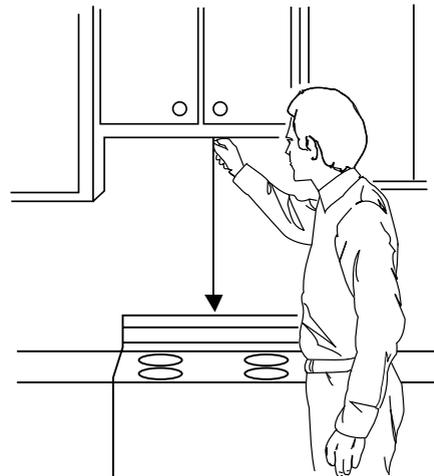

Figure 25
1. Using a plumb line and (metal) measuring tape, find and mark the vertical center line on the back wall, as in Figure 25.
4. Center the rear wall template in the space by lining up the plumb line on wall with centerline on template. Then securely tape or tack the rear wall template in place. Make sure the minimum width is 30 inches and that the top of the rear wall template is located a minimum of 30 inches above the cooking surface. See Figure 25.
1. Center the rear wall template in the space by lining up the plumb line on wall with centerline on template. Then securely tape or tack the rear wall template in place. Make sure the minimum width is 30 inches and that the top of the rear wall template is located a minimum of 30 inches above the cooking surface. See Figure 25.